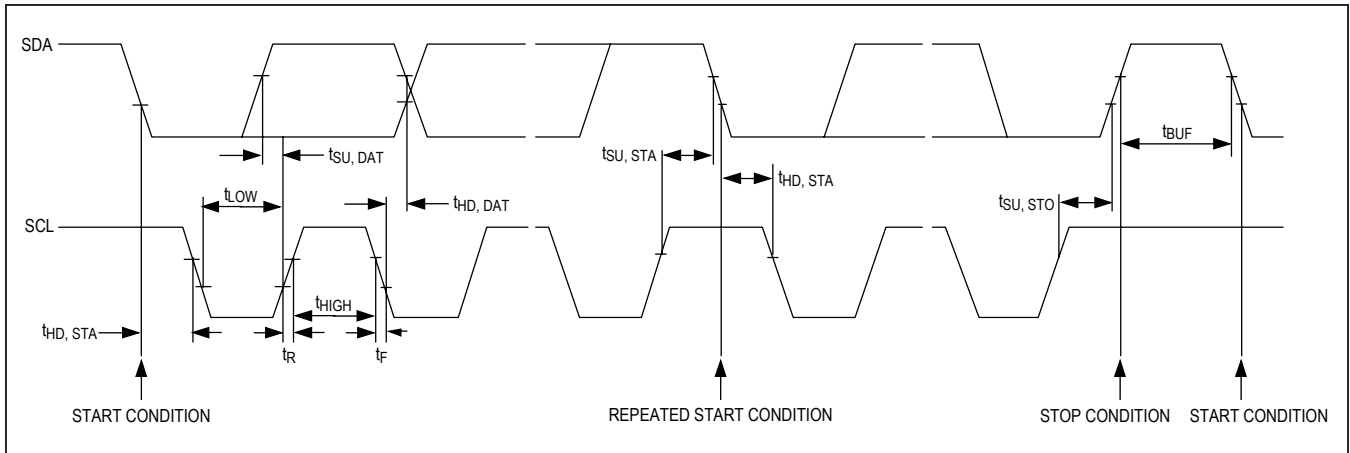

Figure 2. 2-Wire Serial Interface Timing Details
**Timing Characteristics (Figure 2)**(V+ = 2.5V to 5.5V,  $T_A = T_{MIN}$  to  $T_{MAX}$ , unless otherwise noted.) (Note 1)